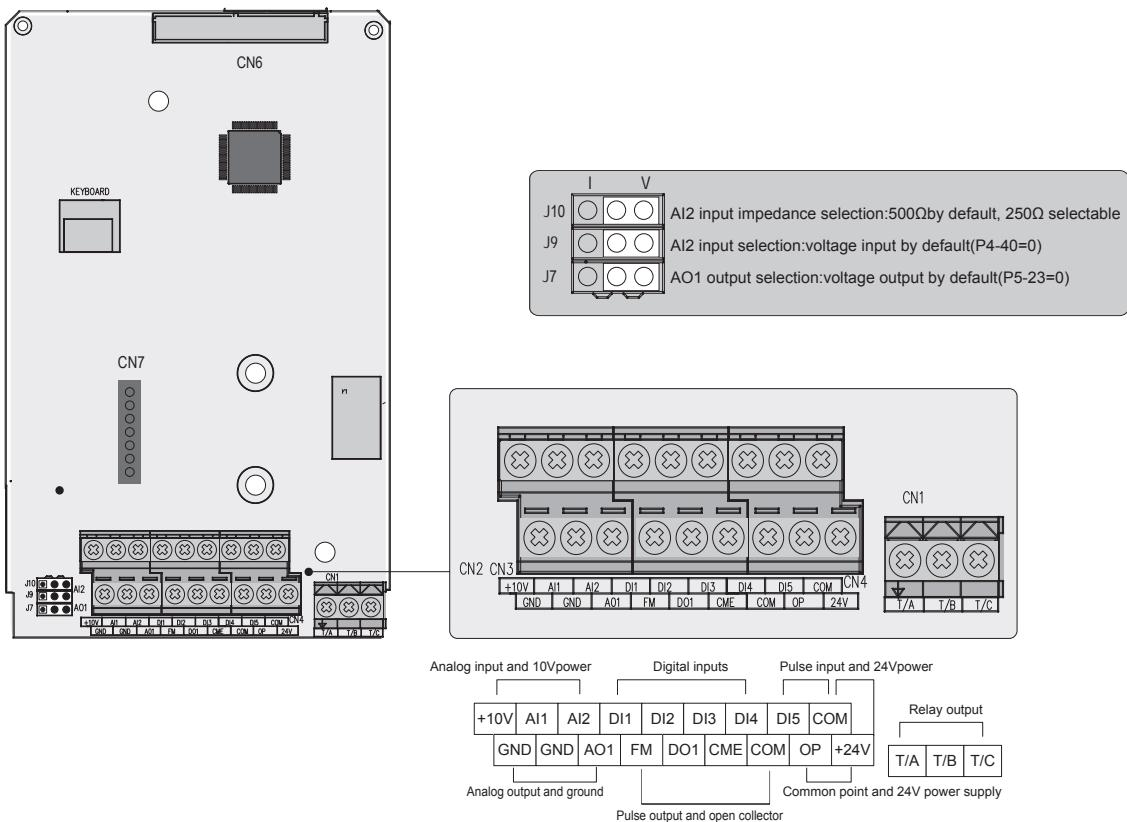

Figure 3-57 Terminal layout of the control circuit
- [Note 3] : Figure 3-57 shows the position of jumpers J7, J9, and J10 on the control board.